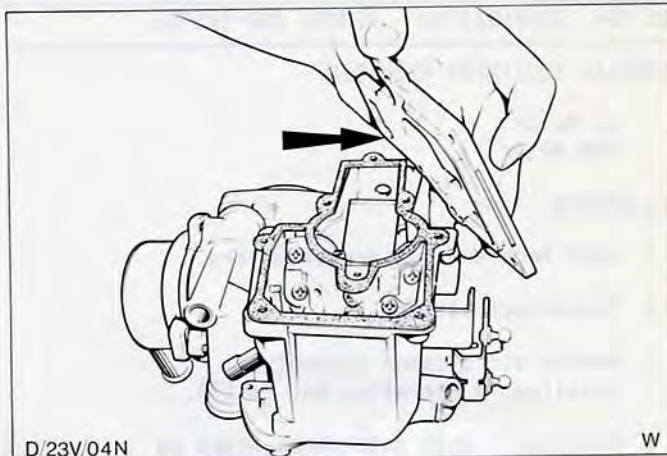

Fig.48. Carburettor top cover removal.
2. Remove seven screws and detach carburettor top cover and gasket, Fig.48.